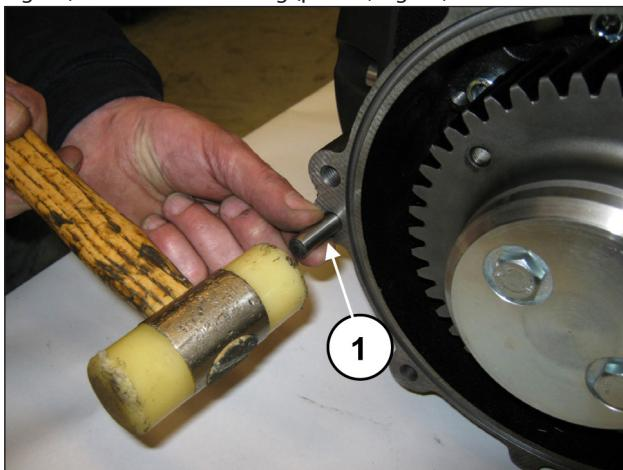
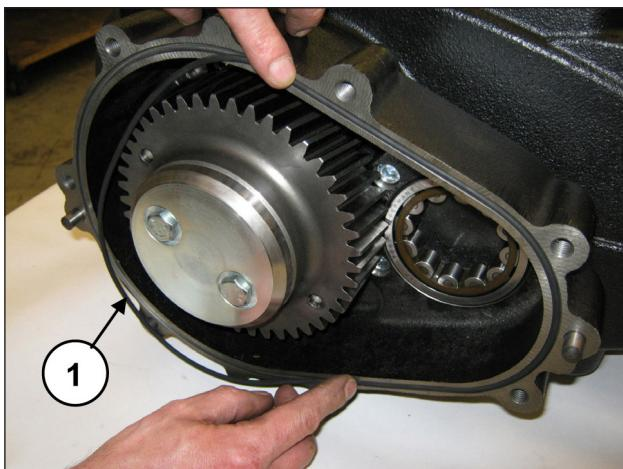

Fig. 80
Fig. 81
Apply the 2 Ø10x24 pins on the reduction gear box (pos. ①, Fig. 80) and insert the O-ring (pos. ①, Fig. 81).